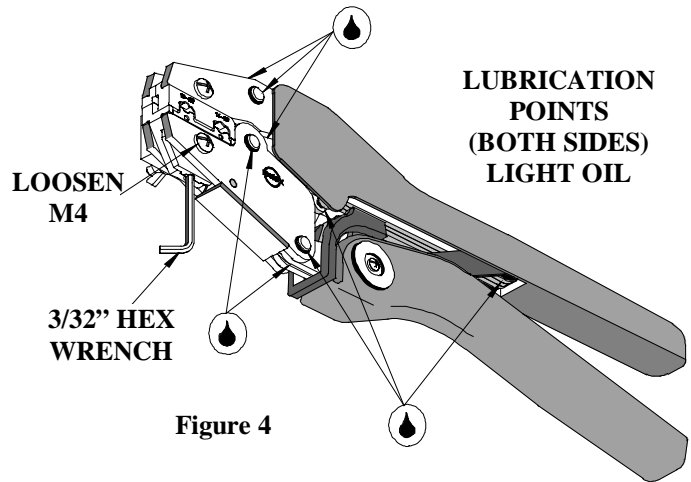

Figure 4
5. If the insulation part of the crimp needs to be adjusted, first loosen the M4 screw on the bottom tool jaw, then insert a 3/32 hex wrench (supplied) into the bottom of the lower die (See Figure 4). A clockwise (CW) rotation decreases insulation crimp while a counter-clockwise (CCW) rotation increases insulation crimp. After adjusting retighten the M4 screw.
3. Make certain all pins; pivot points and bearing surfaces are protected with a thin coat of high quality machine oil. Do not oil excessively. The 64001-4300 (RHT-AFIFG) was engineered for durability, but like any fine piece of equipment it needs cleaning and lubrication for a maximum service life of trouble-free crimping. A light oil, such as 30 weight automotive oil used at the oil points shown in Figure 4, every 5,000 crimps or 3 months will significantly enhance the tool life and ensure a stable calibration.